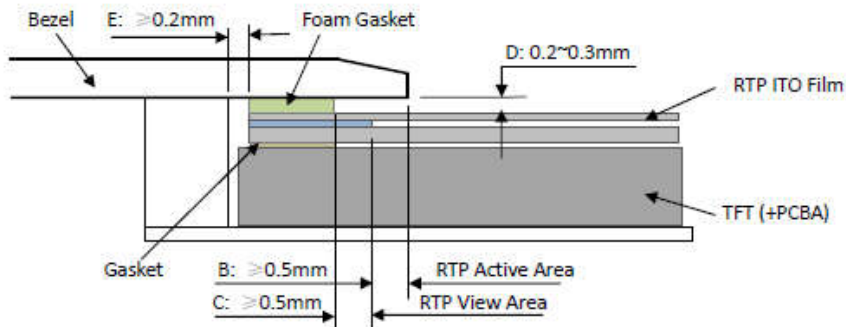

Figure 4
- It should bezel touching the RTP Active Area (A.A.) to prevent abnormal touch.It should left gab $D=0.2\sim 0.3\text{mm}$ in between. (Figure 4)
- Outer bezel design should take care about the area outside the A.A. Those areas contain circuit wires which is having different thickness. Touching those areas could de-form the ITO film. As a result bezel the ITO film be damaged and shorten its lifetime. It is suggested to protect those areas with gasket (between the bezel and RTP).The suggested figures are $B\geq 0.50\text{mm}$; $C\geq 0.50\text{mm}$. (Figure 4)
- The bezel side wall should keep space $E= 0.2 \sim 0.3\text{mm}$ from the RTP. (Figure 4)
- 为避免面框直接压在动作区 (A. A.) 上造成误动作，面框与电阻触摸屏 (RTP) 之间应留有一定的空隙 $D=0.2\sim 0.3\text{mm}$ 之间. (附图 4)
- 设计面框时，要注意用面框保护触摸屏四周的非保证操作区域，因为布线区域在此处形成一台阶，在此区域附近操作时 ITO Film 变形较大，容易导致 ITO 损坏而降低寿命。为保护 RTP 和避免误操作，在 RTP 与面框之间垫缓冲物 (Gasket)，我们建议设计面框应覆盖动作区的边缘，面框边缘到 V. A. 区的距离 $B\geq 0.50\text{mm}$ ；垫圈内边缘到 V. A. 区的距离 $C\geq 0.50\text{mm}$ 。 (附图 4)
- 在设计面框与 RTP 组装时，应考虑到面框内侧与 RTP 外侧的间距 $E\geq 0.2\text{mm}$ 。 (附图 4)